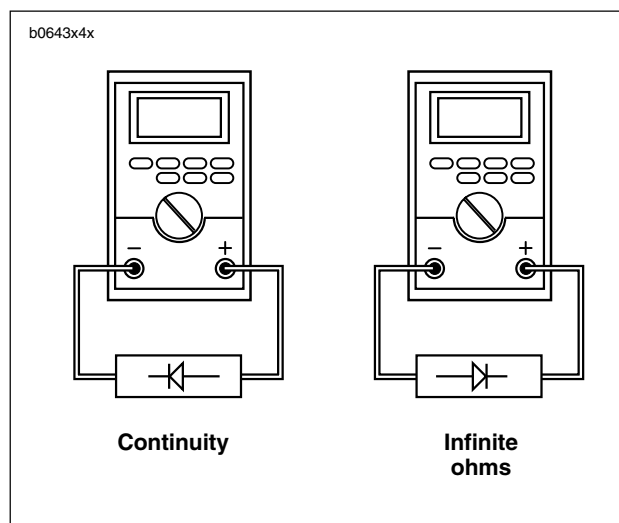

Figure 7-11. Ohmmeter Diode Test
2. Check diode with an ohmmeter as shown in Figure 7-11.